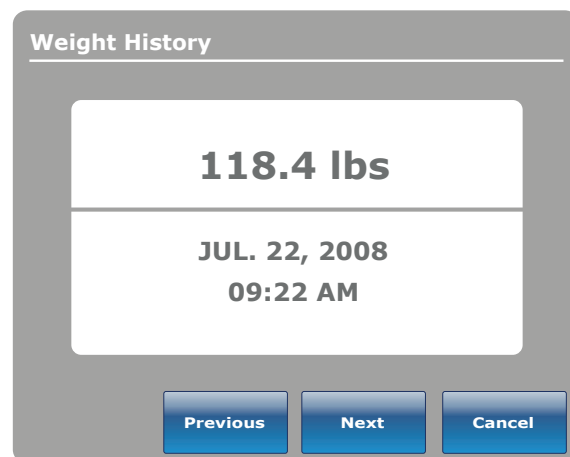

Figure 5.2
6. After 5 seconds expires, another audible beep will sound and the Delayed Weight screen will be displayed as shown in Figure 5.2. The bed has completed its calculation and the equipment being lifted can be repositioned on the bed surface.